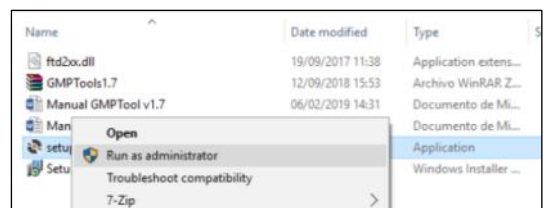

Fig. 2.4
- When the file has been unzipped, right click on the **Setup.exe** icon and select **Run as administrator** (Fig. 2.4).